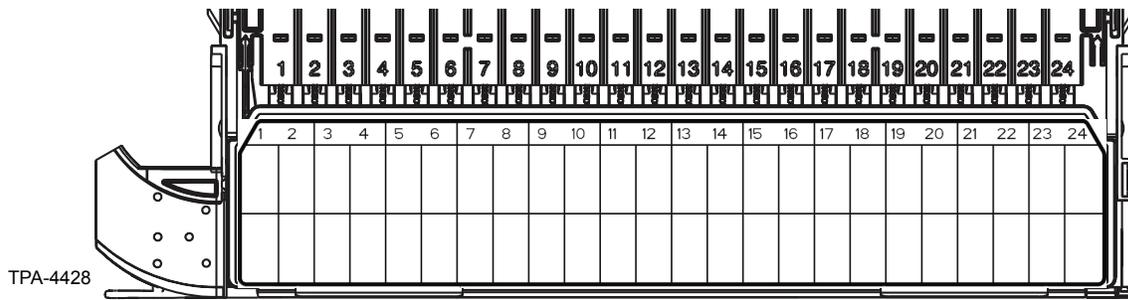

Figure 41
**Step 13:** Affix the designation label to the handle (Figure 41), if necessary.